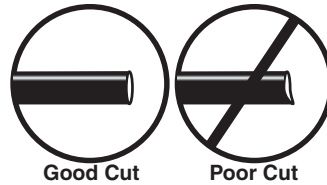

fig. 10
WHEN CUTTING OR TRIMMING THE AIR LINE, USE A HOSE CUTTER, A RAZOR BLADE, OR A SHARP KNIFE. A CLEAN, SQUARE CUT WILL ENSURE AGAINST LEAKS. DO NOT USE WIRE CUTTERS OR SCISSORS TO CUT THE AIR LINE. THESE TOOLS MAY FLATTEN OR CRIMP THE AIR LINE CAUSING IT TO LEAK AROUND THE O-RING SEAL INSIDE THE ELBOW FITTING (FIG. 10).
- a. Check the air line connection by deflating the spring and removing the line by pulling the collar against the fitting and pulling firmly on the air line. Trim 1" off the end of the air line. Be sure the cut is clean and square (see Fig. 10). Reinsert the air line into the push-to-connect fitting.